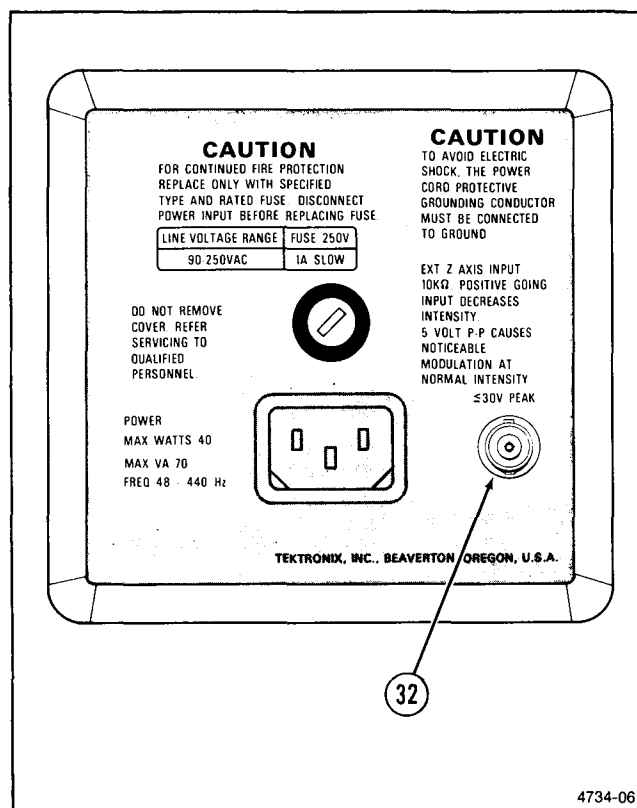

Figure 2-7. Rear-Panel connector.
Refer to Figure 2-7 for location of item 32.